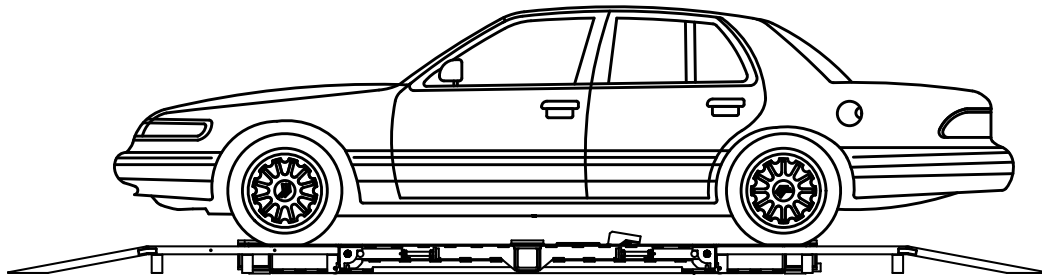

Figure 19
1. With the aid of an assistant to guide you, drive vehicle slowly onto the mainframe until vehicle is centered over mainframe. All wheels should be located on ramps (see Figure 19).